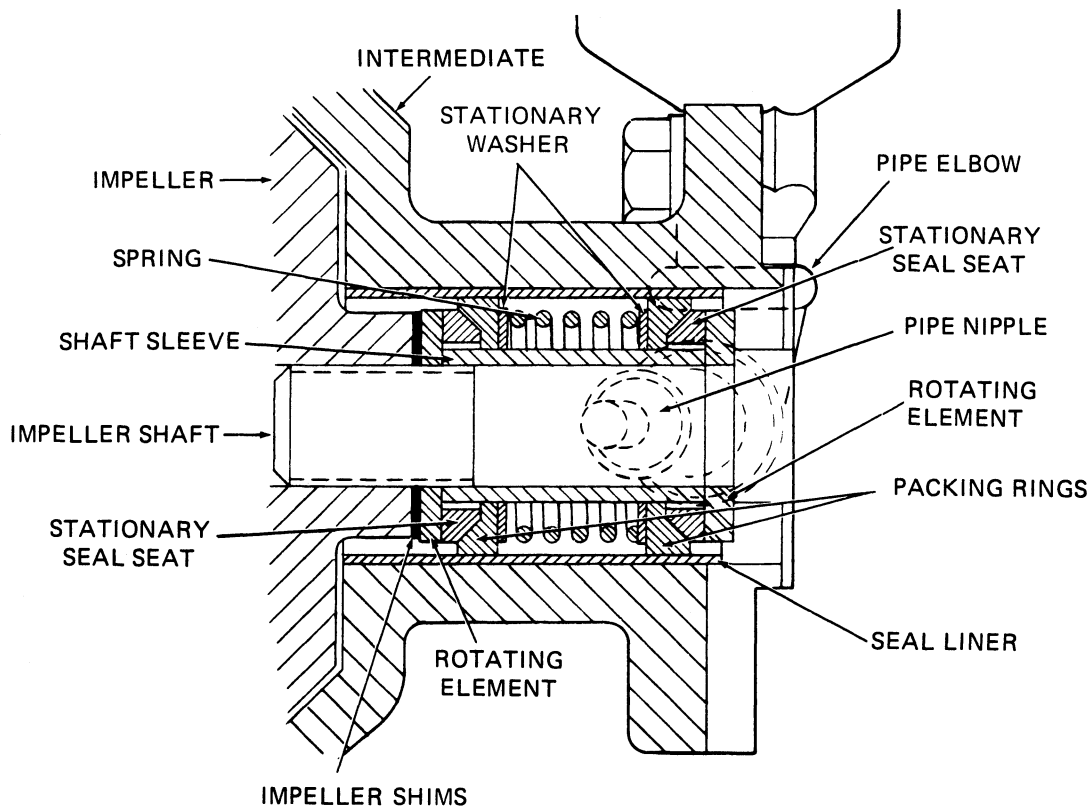

Figure 2. GS625 Seal Assembly
To ease installation of the seal, lubricate the packing rings and seal liner (50) with water or a very **small** amount of oil, and apply a drop of light lubricating oil on the finished faces. Assemble the seal as follows, (see Figure 2).